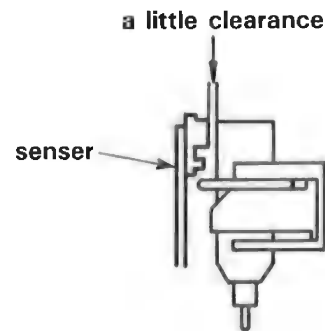

fig. 6-2
- 11). Check that the flange of pen doesn't touch with sensor. (see fig. 6-2)